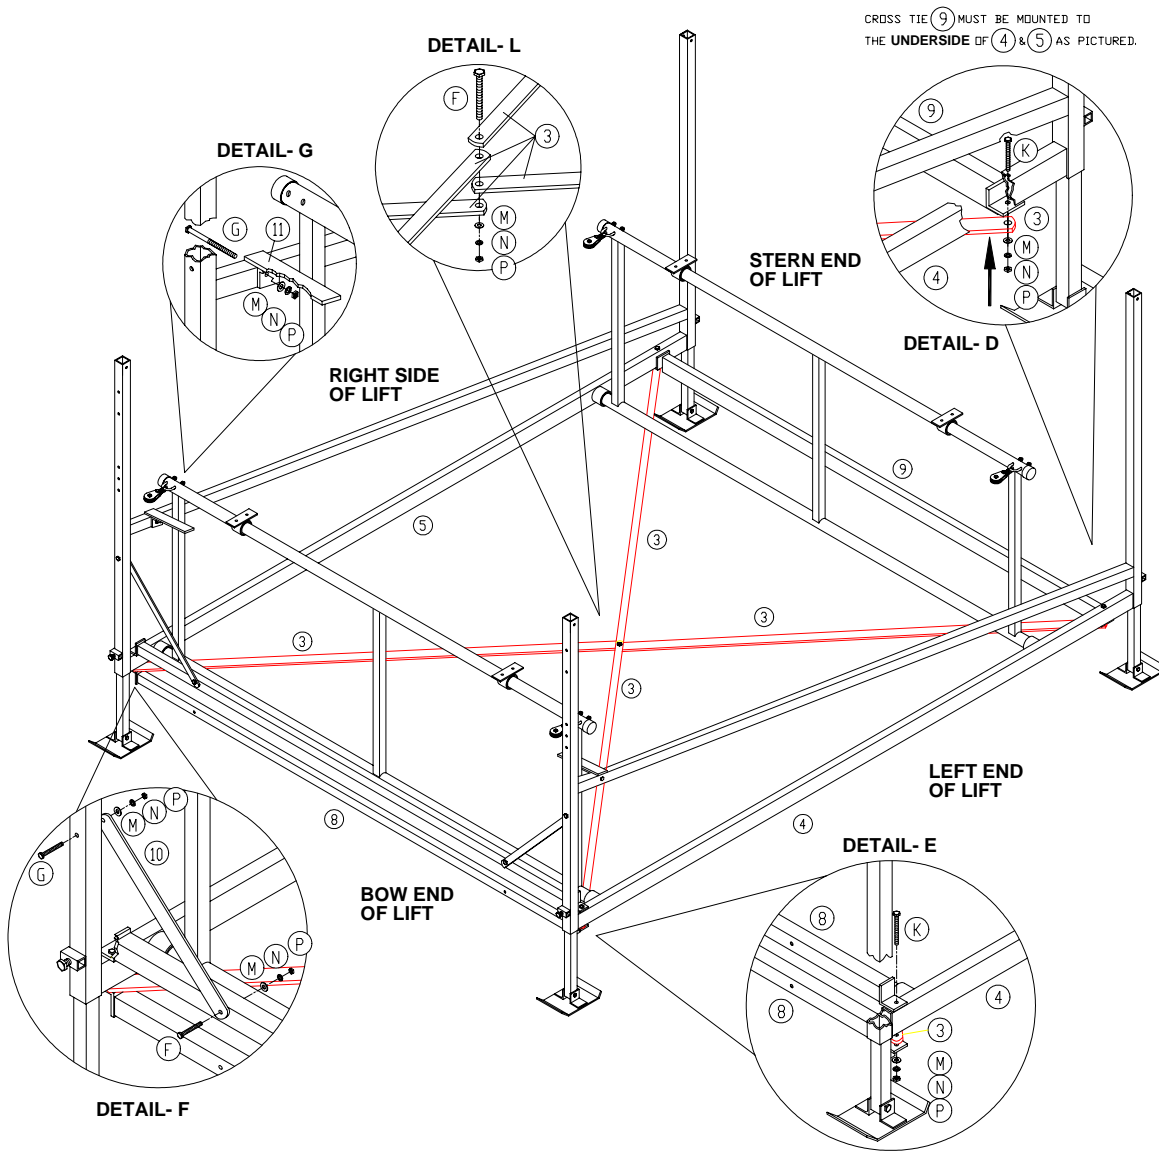

Figure 3-2.
1. Refer to **Figure 3-2**. Attach stern end cross tie and two cross diagonals to **underside** of side assemblies as shown in **Detail D**.